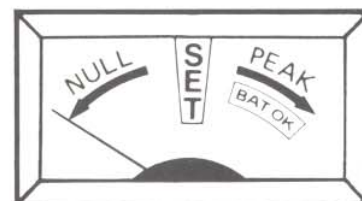

Fig. 6 — 500A/P Receiver Meter
- 3) The Receiver Signal Level Meter (Fig. 6) indicates the strength of the tone being received. Needle deflects to the right (PEAK) at greatest volume. Needle deflects to the left (NULL) for weak or canceled tone. The yellow center zone (SET) provides a reference for cable depth location. The BAT OK zone indicates acceptable battery condition.